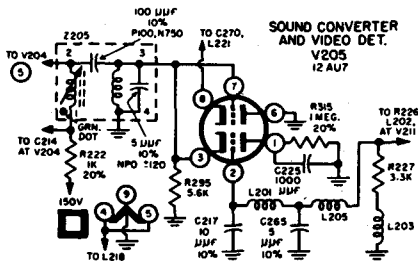

Fig. 57 — Dumont
**Preventing i-f harmonic interference in picture (see Fig. 57).**